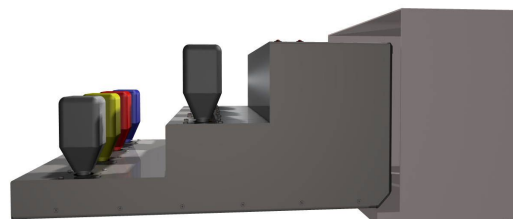

Fig. 13: Place a collecting bucket in front of the print-head
- Place a collecting bucket in front of the print-head (Fig. 13).
- Check that all dots are operating : prepare a sheet of paper. Then in the Purge Menu, press "blackpad"  whilst moving the sheet of paper in front of the print-head. This function prints a solid rectangle of either heads 1 to 4 or 5 to 8 , with no white lines across. Otherwise prime again using the "Normal Prime" option and a bucket (Fig. 13) and check again if all dots are operating.
- When the printing is correct on all print-heads, the collecting bucket can be removed (Fig. 13).